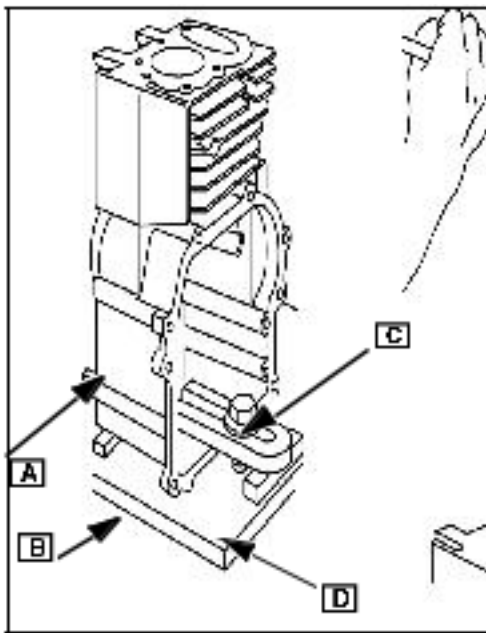

Fig. 46
When available, fasten cylinder (A) to a honing fixture (B), with clamp (C) and shims (D) Fig. 46).